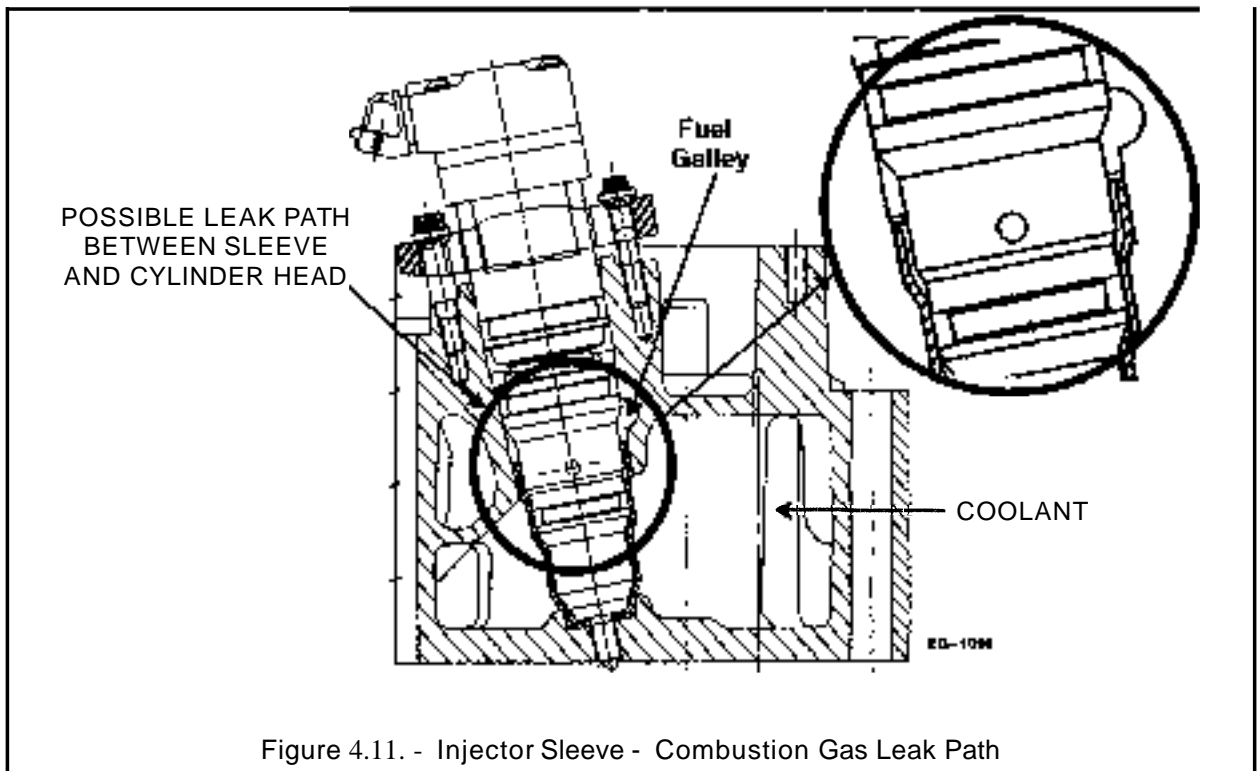

Figure 4.11. - Injector Sleeve - Combustion Gas Leak Path
- With cooling system pressurized, observe upper injector sleeve to head fit for leakage. (Figure 4.11.)